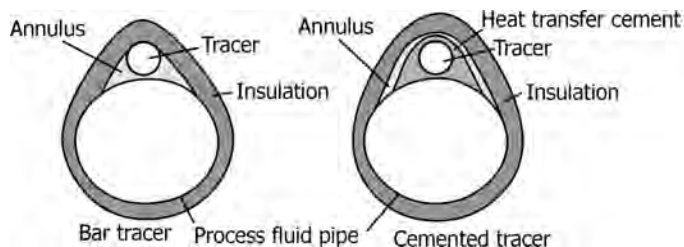

FIGURE 12.7 Heat tracer over a pipe carrying a fluid.
- There are two ways to apply steam tracing (Figure 12.7).
- available for heat transfer, between the tracer and the process fluid pipe. Figure 12.7 illustrates application of insulation for such systems.